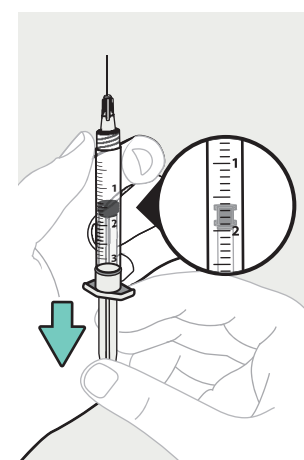

Figure 47
- h. Pull back the plunger of the syringe (see Figure 47). Make sure the plunger of the syringe is at 1.8 mL (about halfway between the 1.5 mL and 2 mL marks).